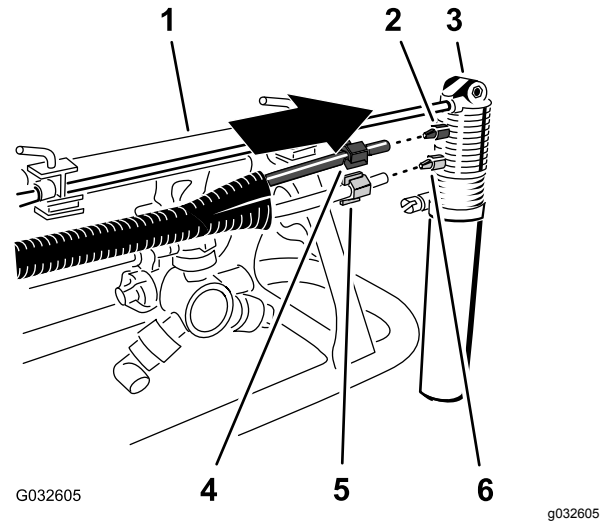

Figure 28
2. Align the end of the clear tube with the white compression nut to the white fitting of the foam-marker nozzle, and tighten the compression nut by hand (Figure 28).
3. Align the end of the blue tube with the blue compression nut to the blue fitting of the foam-marker nozzle, and tighten the compression nut by hand (Figure 28).
1. Slip the blue compression nut over the ends of blue tube and the white compression nut over the clear tube (Figure 28).